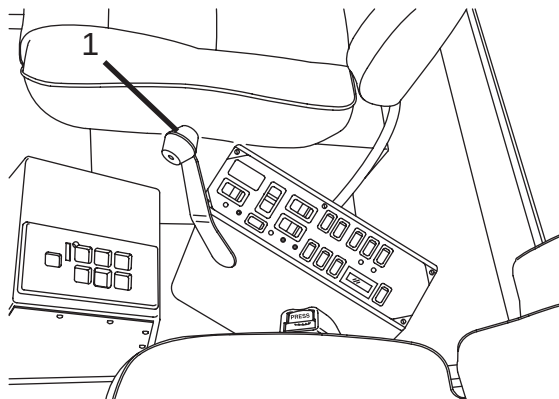
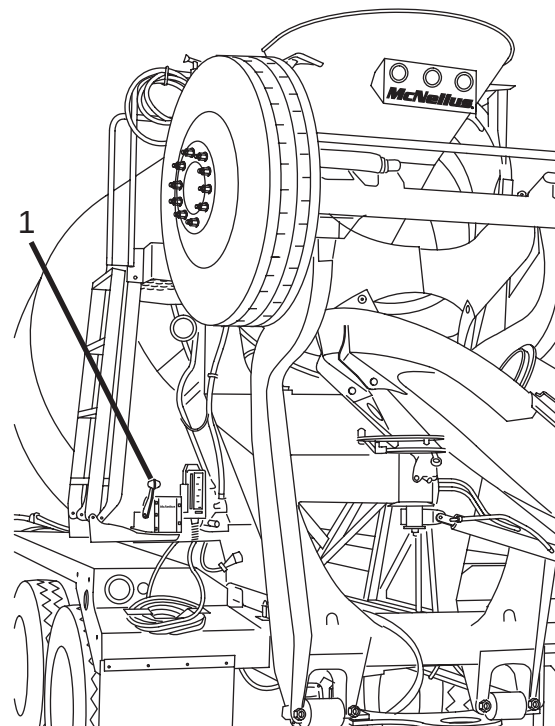

Figure 103
Figure 104
2. Control the drum speed by manipulating the drum control lever (Figure 103, Item 1) in the cab, or the control lever (Figure 104, Item 1) on the drum control lever at the rear of the truck.